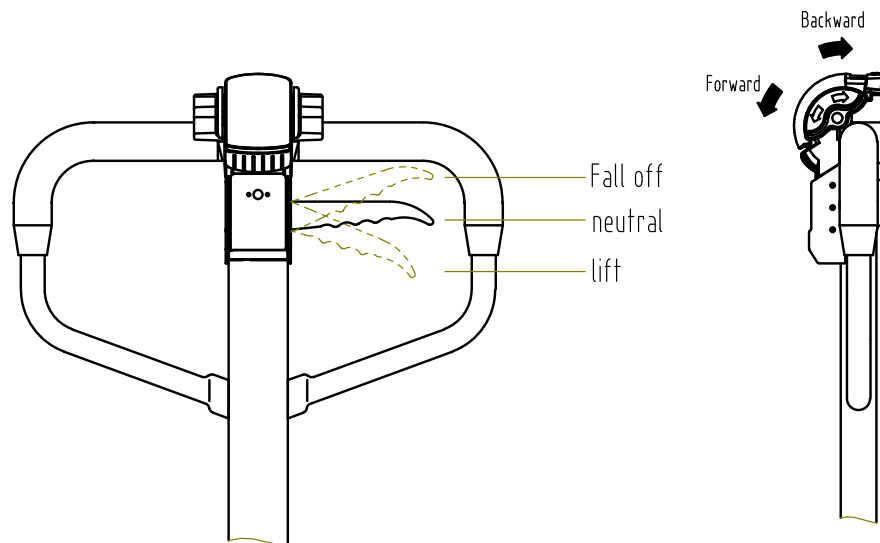

Figure 8
- 6.1 After the truck has been assembled, try swinging the handle and controlling each gear of the knob (refer to Figure 8) to see whether the lifting and lowering is normal or not. Rotate the knob of handle accelerator. Rotate it clockwise and the truck will go back; rotate it anti-clockwise and the truck will go forward; in forward direction, press the emergency reverse switch and the truck will travel reversely for about 2m.